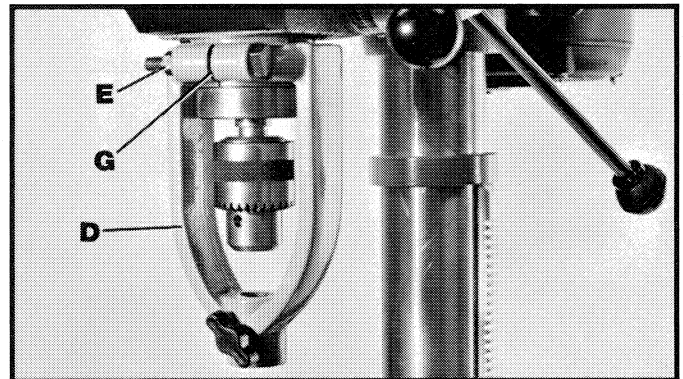

Fig. 3
4. Assemble chisel holder (D) Fig. 3, to the drill press as shown making sure the top of the chisel holder is located over the two split ring bushings that were assembled in Step 2. **NOTE:** Before tightening hex nut (E) make certain the slot in split-ring bushing lines up with slot (G) of chisel holder (D).